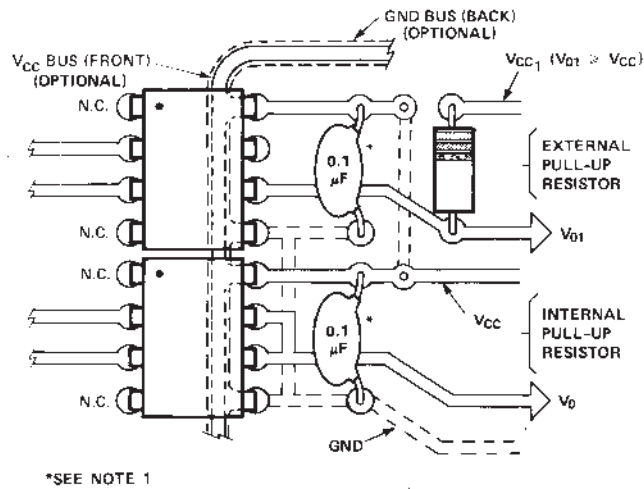

Figure 19. Recommended printed circuit board layout.
- By-passing the power supply line is required with a  $0.1 \mu\text{F}$  ceramic disc capacitor adjacent to each optocoupler as illustrated in Figure 19. The power supply bus for the optocoupler(s) should be separate from the bus for any active loads, otherwise a larger value of bypass capacitor (up to  $0.5 \mu\text{F}$ ) may be needed to suppress regenerative feedback via the power supply.
A recommended layout for use with an internal 1000  $\Omega$  resistor or an external pull-up resistor and required  $V_{CC}$  bypass capacitor is given in Figure 19.  $V_{CC1}$  is used with an external pull-up resistor for output voltage levels ( $V_O$ ) greater than or equal to 5 V. As illustrated in Figure 19, an optional  $V_{CC}$  and GND trace can be located between the input and the output leads of the HCPL-2300/HCPL-0300 to provide additional noise immunity at the compromise of insulation capability ( $V_{I,O}$ ).